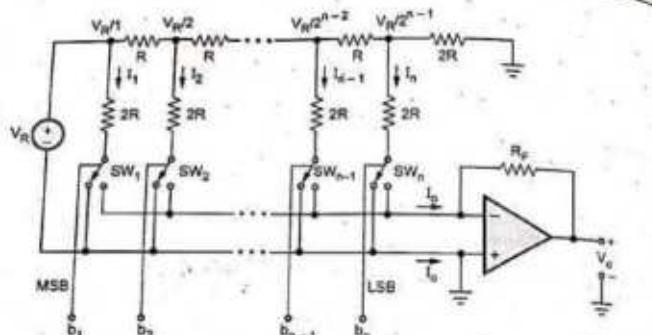

Fig. 6.2.5
- Fig. 6.2.5 shows R/2R ladder DAC. Like binary weighted resistor DAC, it also uses shunt resistors to generate n binary weighted currents; however it uses voltage scaling and identical resistors instead of resistor scaling and common voltage reference used in binary weighted resistor DAC. Voltage scaling requires an additional set of voltage dropping series resistances between adjacent nodes, as shown in the Fig. 6.2.5.